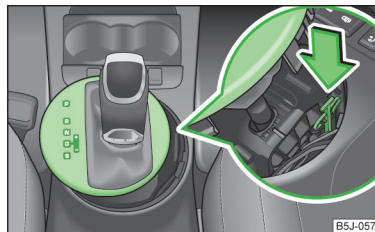

Fig. 112
- Use a finger to press the yellow plastic part in the direction of the arrow » Fig. 112.